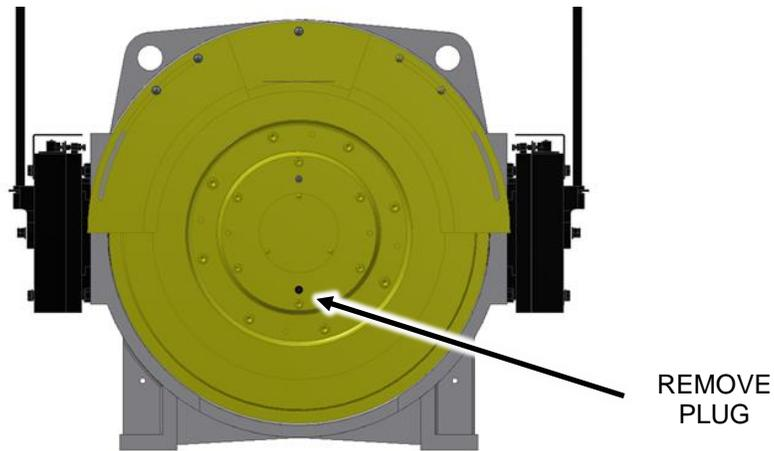

Figure 15
1. To grease bearings, first remove the pressure relief plug on the rotor (front) of the machine. See Figure 15.